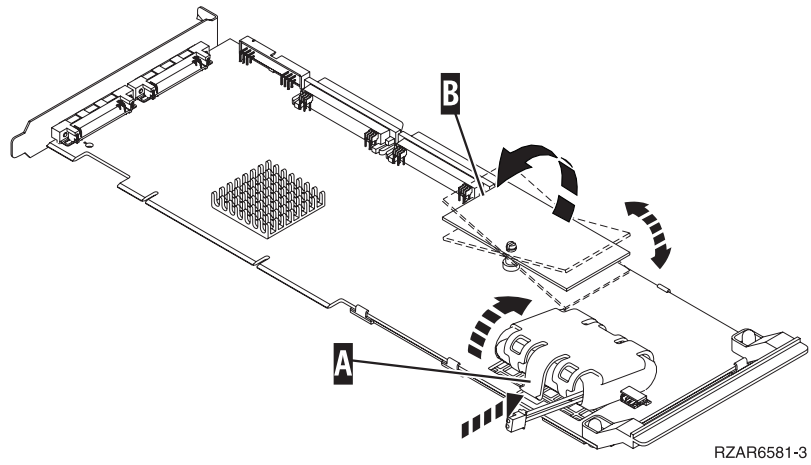
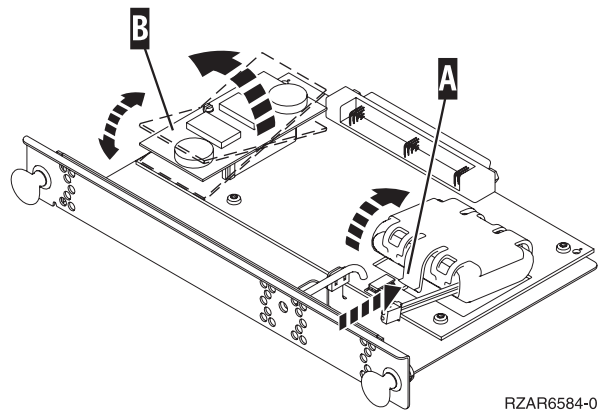
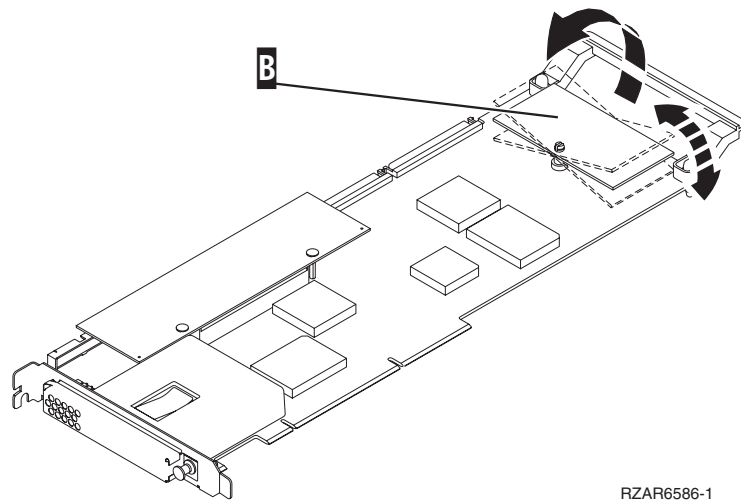
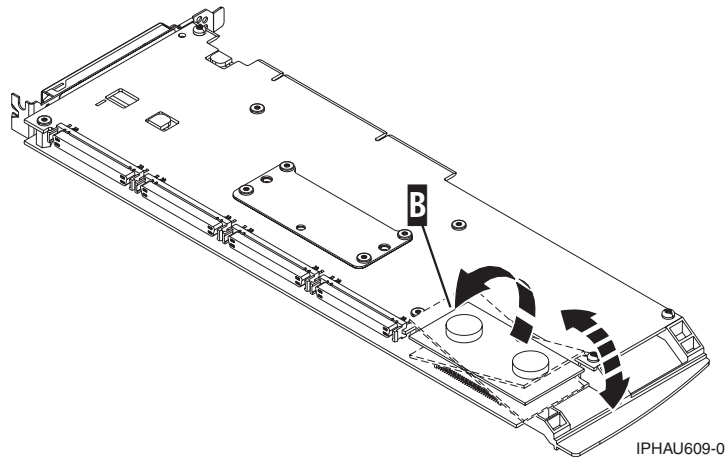

Figure 5.
Figure 6.
Figure 8.
Figure 9.
2. Locate the cache directory card **B**. It is a small rectangular card mounted on the I/O card (see Figure 5 on page 30, Figure 6 on page 30, Figure 8 on page 31 or Figure 9 on page 32 below).